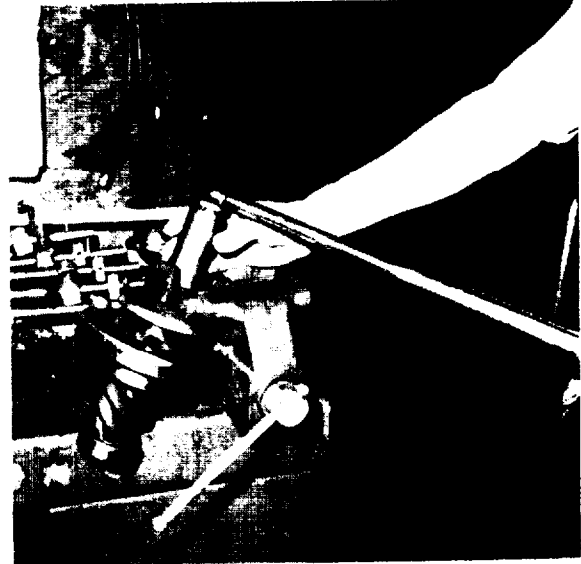

FIGURE 8-25.
a. Clamp companion flange into vise and remove the cotter pin, nut and washer (see figure 8-25).